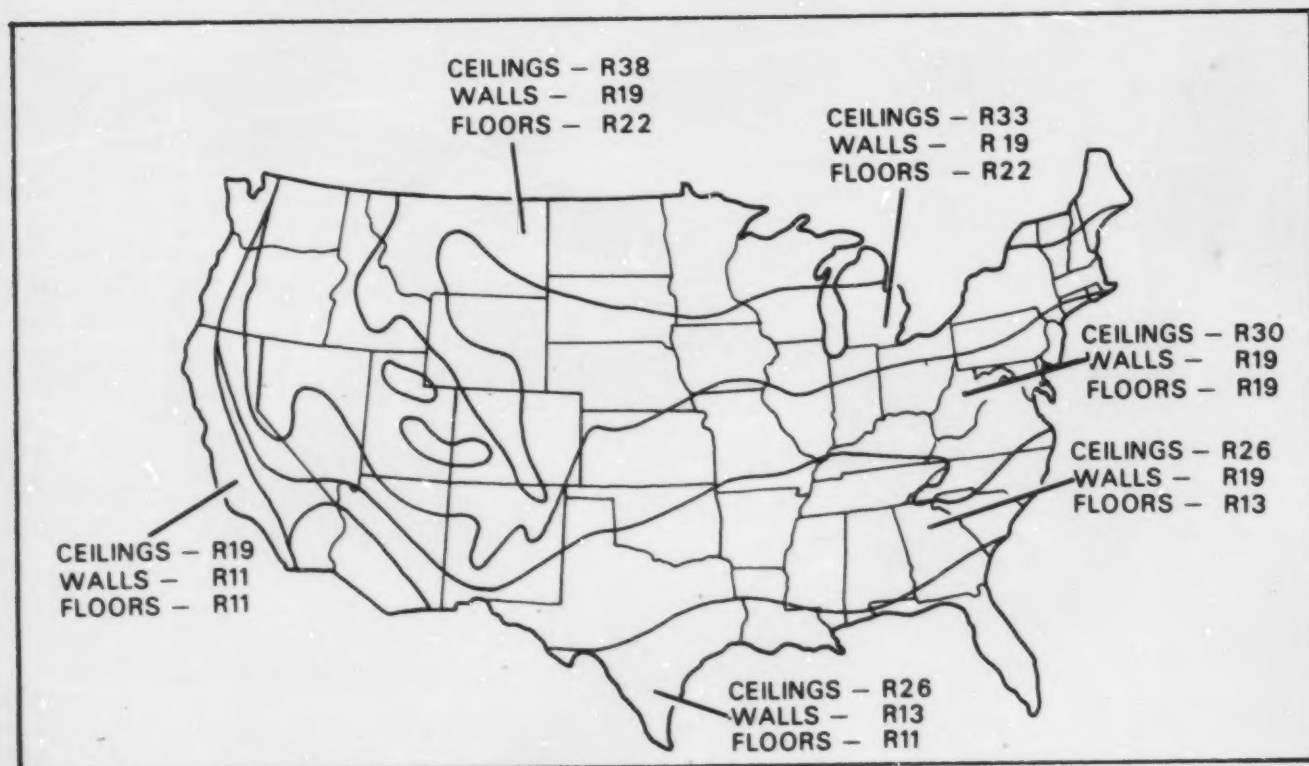

FIGURE 3
17. From Figure 3, page 44, indicate R-values recommended for your area: